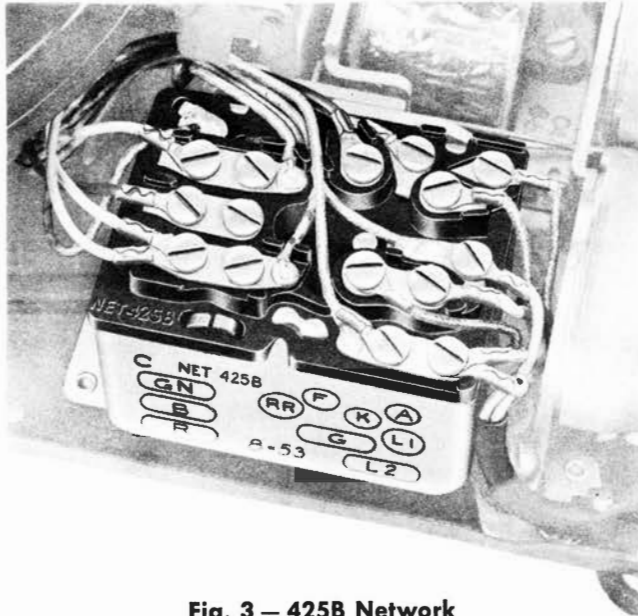

Fig. 3 — 425B Network
- All other 500 series sets have 425B networks which contain necessary apparatus for equalization (see Fig. 3).